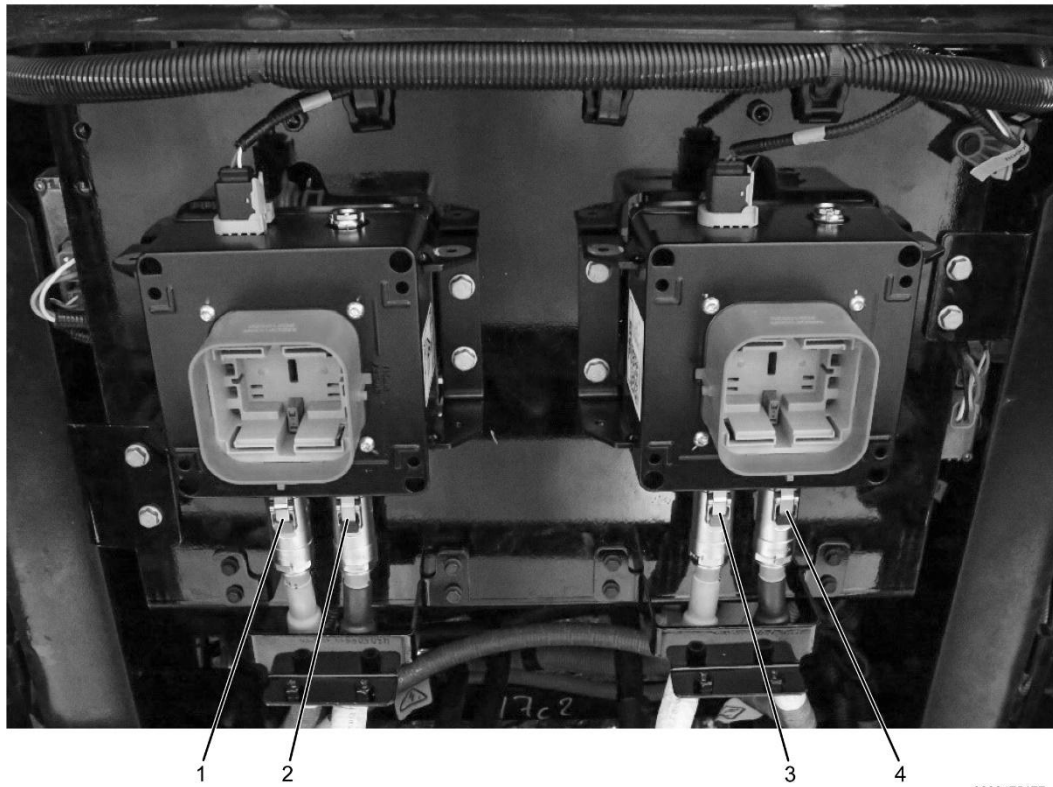

Figure 9. Front MSD High-Voltage Connections
- a. Connect positive high-voltage cables (Figure 9, Items 1 & 3) to passenger and driver-side MSD.
- b. Connect negative high-voltage cables (Figure 9, Items 2 & 4) to passenger and driver-side MSD.